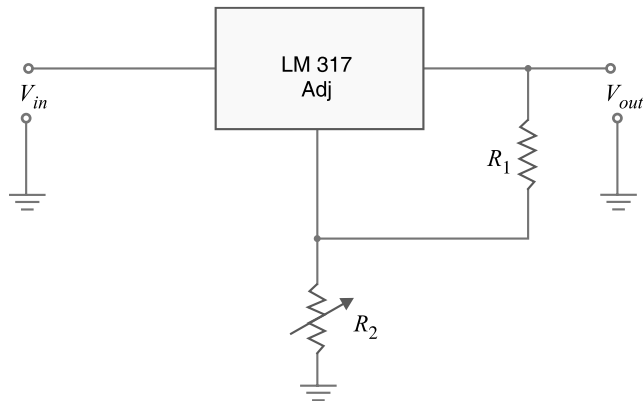

Fig. 21.16
(ii) **IC Adjustable Voltage Regulator.** Sometimes, we want a voltage regulator whose voltage we can vary. An example of such a voltage regulator is LM 317 whose schematic diagram is shown in Fig. 21.16. By varying the value of  $R_2$ , the output voltage of the regulator can be adjusted. The following equation is used to determine the regulated d.c. output voltage for an LM 317 regulator circuit :
**Example 21.1.** In LM 317 voltage regulator shown in Fig. 21.16,  $R_2$  is adjusted to 2.4 k $\Omega$ . If the value of  $R_1$  is 240  $\Omega$ , determine the regulated d.c. output voltage for the circuit.